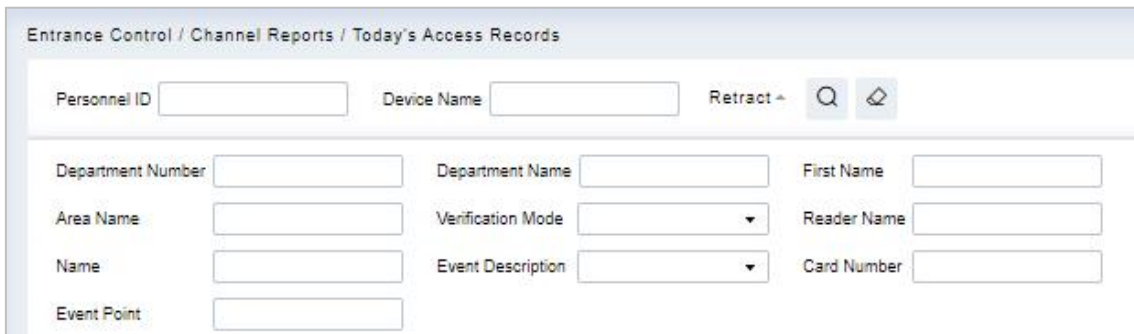

Figure 12-47 Today's Access Record
Step 2: In Today's Access Record interface, fill in the corresponding query information and click the **Query** symbol to complete the query of access record tables, as shown in Figure 12-47.